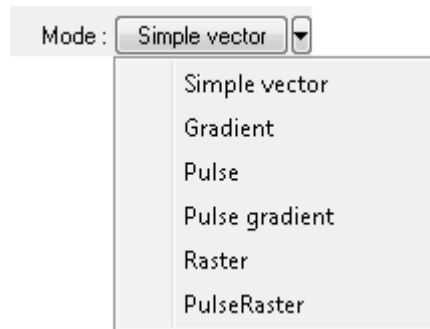

Fig. 13-39. Selecting the lithography mode
4. In the **Mode** drop-down list, select the desired mode of vector lithography (Fig. 13-39):